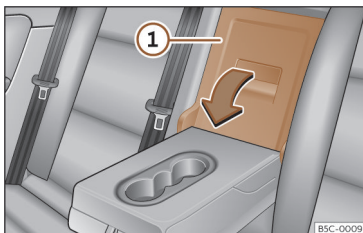

Fig. 172 On the rear seat backrest: opening the tailboard.
- Pull the release lever in the direction of the arrow and push the tailboard cover >>> **Fig. 172** ① down and forwards.